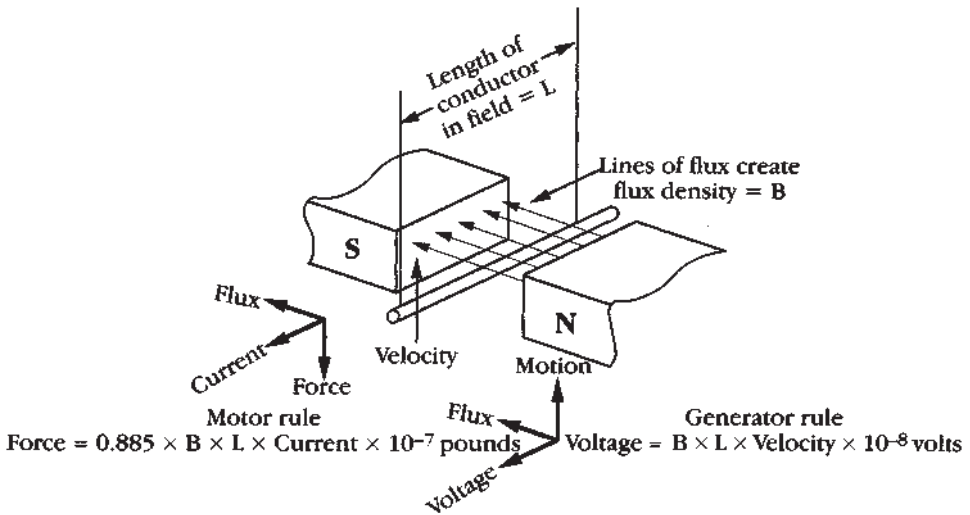
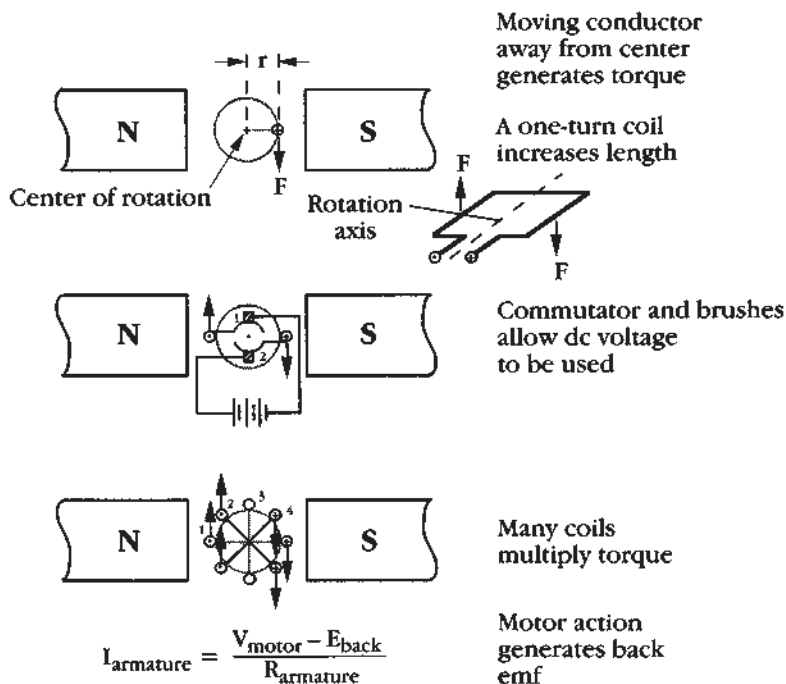

FIGURE 6-1 DC motor basics—the motor and generator rules.
FIGURE 6-2 DC motor s basics—obtaining torque from moving conductors.
If you had a horseshoe-shaped magnet with the ends close together and you moved a wire through its pole area at a right angle to the flux as shown in Figure 6-1, the equation describing it would be
This relationship holds true whether the field is stationary and the wire is moving or vice versa. The faster you cut the lines of flux, the greater the voltage, but you must do so at right angles. (At any angle ϕ other than the 90-degree right angle, that equation becomes $V = Blv \times \sin \phi \times 10^{-8}$.) What you have just demonstrated is Faraday's Law or the generator rule: Motion of a conductor at a right angle through a magnetic field induces a voltage across the conductor. If the circuit is closed, the induced voltage will cause a current to flow. A handy way to remember the relationships is the right-hand rule: the thumb of your right hand points upward in the direction of the motion of the conductor, your index finger extends at right angles to it in the direction of the flux (from north to south pole), and your third finger extends in a direction at right angles to the other two, indicating the polarity of the induced voltage or the direction in which the current will flow as shown in Figure 6-1.
What we have just demonstrated here is Ampere's Law or the motor rule: Current flowing through a conductor at a right angle to a magnetic field produces a force upon the conductor. The right-hand rule is again a handy way to remember the relationships, but this time the thumb of your right hand points toward you in the direction of the current through the conductor, your extended index finger at right angles to it points in the direction of the flux (from north to south pole), and your extended third finger points downwards in a direction at right angles to the other two, indicating the direction of the generated force as shown in Figure 6-1. Now you're ready to talk seriously about motors.
If you could support the conductor shown in Figure 6-1 so that it could rotate in the magnetic field, you would create the condition shown in the upper part of Figure 6-2.
First you need to make it more "force-full." Since the force varies with the length of the conductor, if you make a coil of wire, as shown in the upper right of Figure 6-2, twice as much length is cutting the lines of flux. The force generated on the right-hand wire is downward and the force generated on the left-hand wire is upward; they would assist one another in producing rotation and result in twice the torque.
To further assist rotation, you add the commutator and brushes, shown in the middle of Figure 6-2. This arrangement allows you to power your motor from a constant supply of direct current (DC) voltage. Switching the polarity of the coils when they reach the 12 o'clock or 6 o'clock position (minimum flux point) guarantees that current will always flow in through brush number 2 and out through brush number 1, thus always producing upward force on the left-hand conductor and downward force on the right-hand conductor, and creating a constant rotation.
To further increase the motor's torque abilities, you add additional coils as shown at the bottom of Figure 6-2. In reality, each coil can have many windings, and you can
The armature is the main current-carrying part of a motor that normally rotates (brushless motors tend to blur this distinction) and produces torque via the action of current flow in its coils. It also holds the coils in place, and provides a low reluctance path to the flux. (Reluctance is defined as $(H \times l)/\mu$ and measured in ampere-turns per lines of flux.) The armature usually consists of a shaft surrounded by laminated sheet steel pieces called the *armature core*. The laminations reduce eddy current losses; steel is replaced by more efficient metals in newer designs. There are grooves or slots parallel to the shaft around the outside of the core; the sides of the coils are placed into these slots. The coils (each with many turns of wire) are placed so that one side is under the north pole and the other is under the south pole; adjacent coils are placed in adjacent slots, as shown at the bottom of Figure 6-2. The end of one coil is connected to the beginning of the next coil so that the total force then becomes the sum of the forces generated on each coil.
In the real world, electromagnets (recall your toolbox nail with a few turns of insulated copper wire wrapped around it) are customarily used instead of the permanent magnets you saw in Figure 6-1 and Figure 6-2. (Permanent magnet motors are, in fact, used, and you'll be formally introduced to them and their advantages later in this section.) In a real motor the lines of flux are produced by an electromagnet created by winding turns of wire around its poles or pole pieces. A pole is normally built up of laminated sheet steel pieces, which reduce eddy current losses; as with armatures, steel has been replaced by more efficient metals in the newer models. The pole pieces are usually curved where they surround the armature to produce a more uniform magnetic field. The turns of copper wire around the poles are called the field windings.